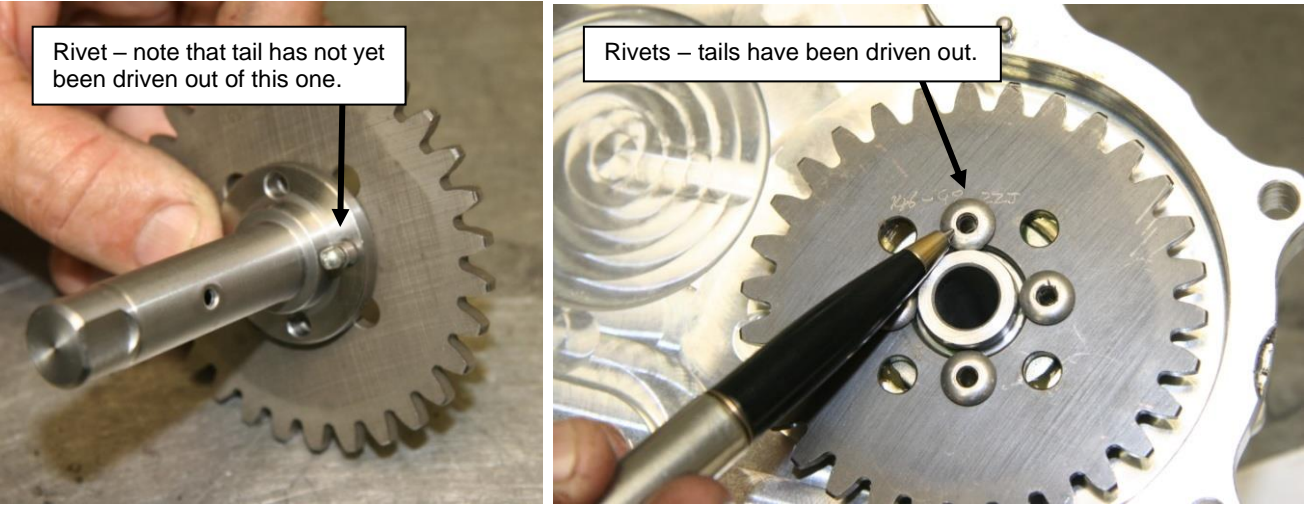

Figure 154 – Assembling Distributor Gear to shaft
- If the distributor shaft has been replaced it will be necessary to rivet the drive gear to the new shaft as shown in Figure 154. 3/16" stainless steel (Monel) blind rivets must be used. Ensure that the heads of the rivet do not get caught on the edge of the shaft and that the tails are not so long that they project past the shoulder of the shaft. Also ensure that the remainder of the rivet tails are driven out of the rivet – otherwise they can work loose in service and damage the engine.